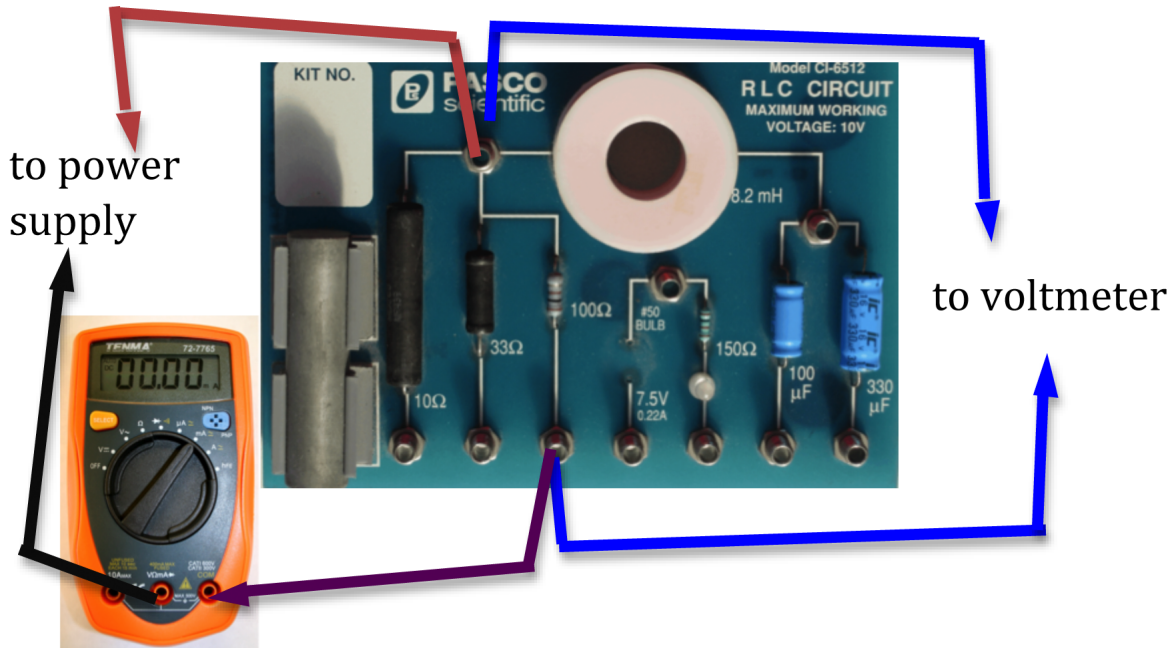

Figure 6: Circuit diagram for 100  $\Omega$  resistor
Figure 6 below shows the connections for each individual resistor using the circuit board.
- 4 Connect the circuit shown in Fig. 6 for the 100  $\Omega$  resistor.